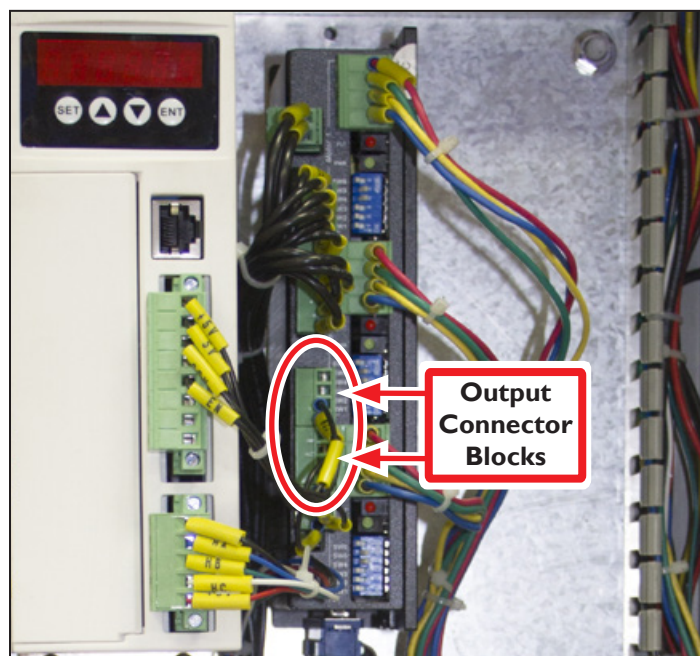

Figure 5
2. Identify two Output Connector Blocks on Control Module as shown in **Figure 5**; remove top Output Connector Block.